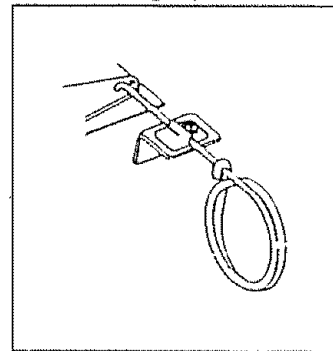

FIG. 6
- Apply the choke (Fig. 6). Pull choke lever to its FULL CHOKE POSITION